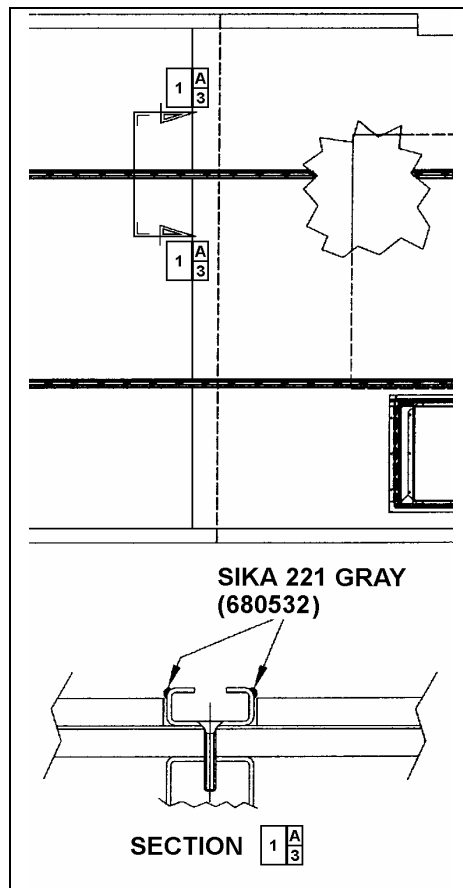

FIGURE 36: APPLICATION OF SIKA 221 GRAY
5. Remove 2 nuts and washers holding seat frame to pedestal rods. See figure 36.
8. Apply Sikaflex 221 gray sealant (680532) alongside passenger seat fixing tracks (refer to figure36).